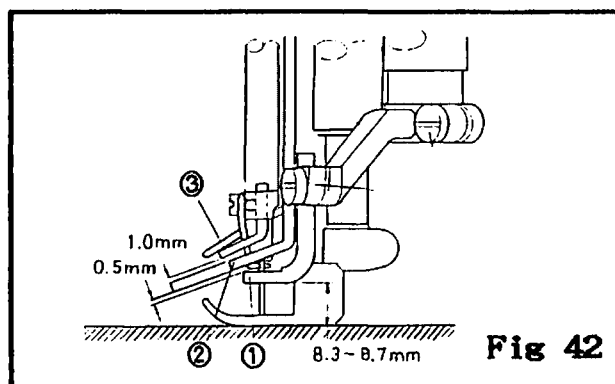

Fig 42
1. When the Needle Bar is in its lowest position, the Thread Guide (2) should be set just below the eye of the guide (3). And the clearance between Thread Guide (2) and the Spreader (1) should be set to 0.5mm. (Fig 42)
2. When the Needle Bar moves to its lowest position, the clearance should be 1.0mm between the Spreader Thread Guide (2) and the Needle Thread Guide (3). The concavity of the Spreader and the thread eye should face each other. (Fig 42)